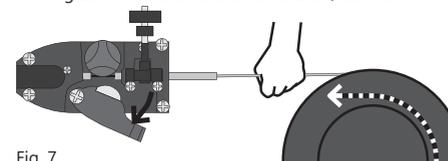

Fig. 7.
- (see Fig. 7) Insert at least 30 cm of wire into the guide. If the end of the wire is bent, cut it off.